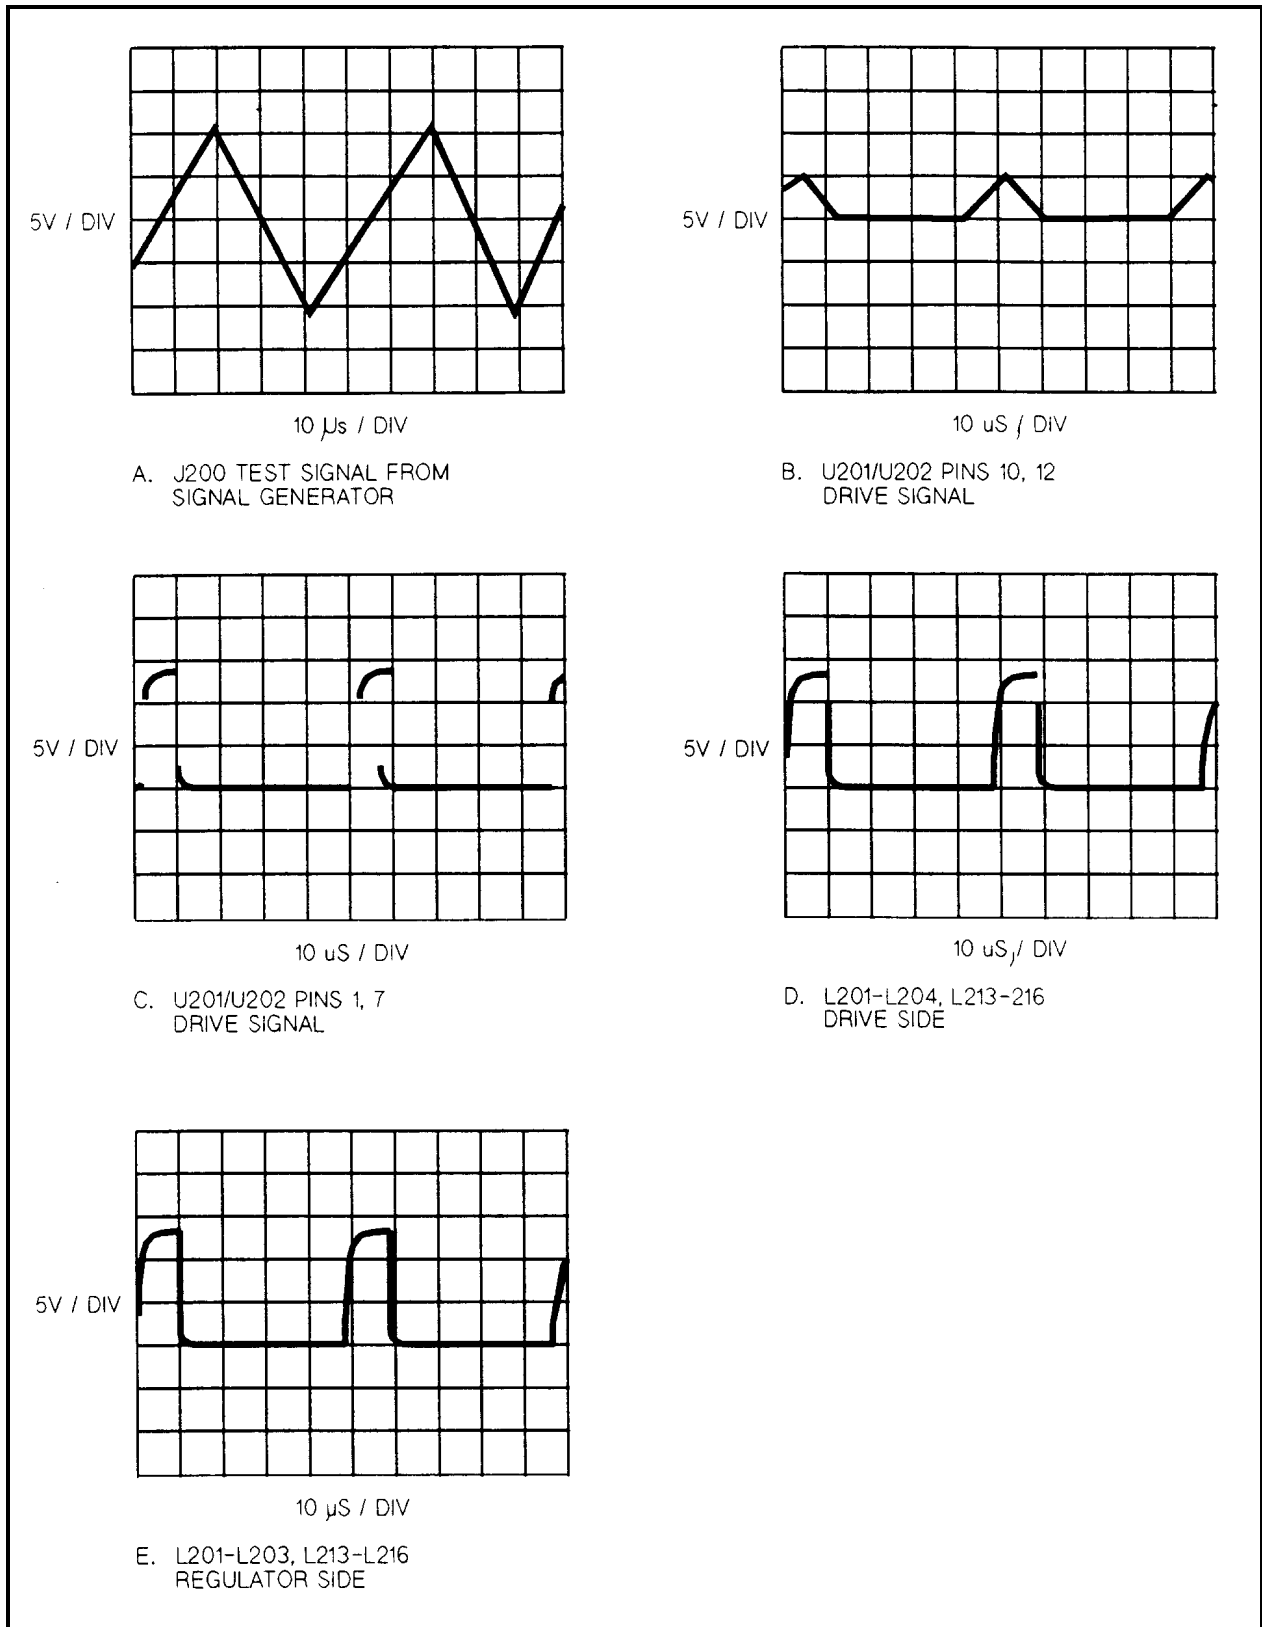

Figure 3-14. A3 FET Board Test Waveforms
10. Pulses should be present on both sides of inductors L201-204 and L213-216 as follows:  Check the pulses on the driver transistor side (Q251-Q254) of each inductor.  Check the pulses on the FET regulator side (Q201-Q204, Q211, Q222, Q233, and Q244) of each inductor.  If the waveforms do not have the fast step as shown in Figure 3-14, then the associated FET gate input has an open circuit.	See Figure 3-14D.  See Figure 3-14E.
11. Measure the VREF voltage at U204-4 (35) .	≈ 1.7V